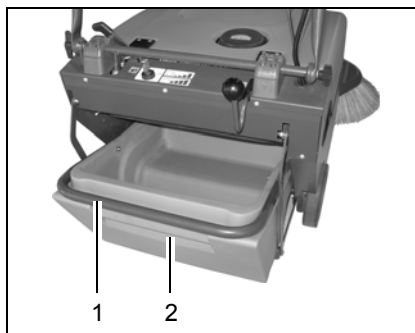

Fig. 12
2. Remove the dirt hopper (Fig. 12/2) from the machine and empty it.
Carry the dirt hopper (Fig. 12/2) by the handles (Fig. 12/1).